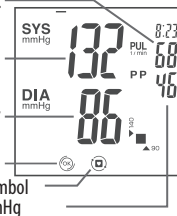

Fig.15
6. When the measurement is completed, the display will show the values of blood pressure, pulse pressure, WHO scale and heart rate (Fig. 15). The device will automatically release the air from the cuff.